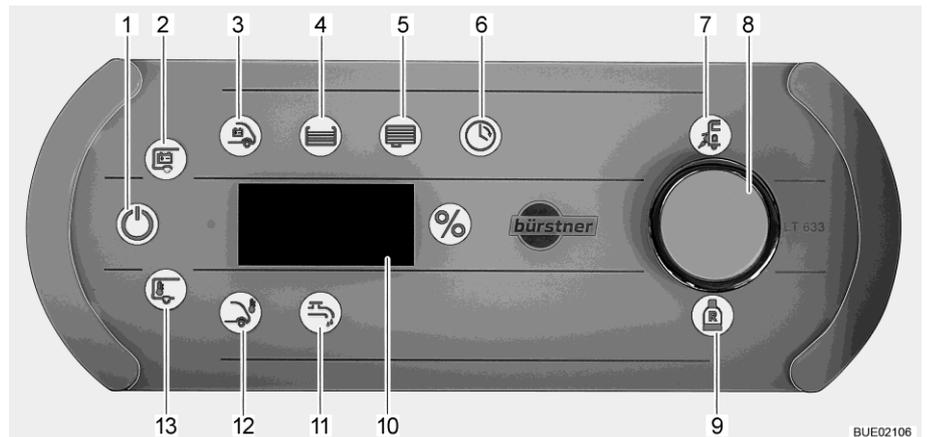

Fig. 109 Panel LT 633
The mains check symbol (Fig. 109,7) lights up when the vehicle is being supplied with 230-V line voltage. The batteries are charged.
- Briefly press the rotary knob (Fig. 109,8). The 12 V ON symbol (Fig. 109,1) is lit. When the 12 V ON living area battery (Fig. 109,2) symbols flash three times, the power supply has been deactivated.
- Press and hold rotary knob (Fig. 109,8) for approx. 5 seconds. The living area battery symbol (Fig. 109,2) is flashing and "On" appears on the display (Fig. 109,10).
- Release the rotary knob. The 12 V ON symbol (Fig. 109,1) is lit. The power supply has been switched on.
- Turn the rotary knob until the water pump symbol (Fig. 109,11) lights up. The current switching state ("On" or "OFF") is shown on the display.
The water pump symbol (Fig. 109,11) lights up when the water pump is switched on.
- Turn the rotary knob until the living area battery symbol (Fig. 109,2) lights up. The battery voltage of the living area battery appears for approx. 20 seconds on the display (e.g. "13,8U" for 13.8 Volt).
- Turn the rotary knob until the starter battery symbol (Fig. 109,3) lights up. The battery voltage of the starter battery appears for approx. 20 seconds on the display.
Gas reserve The reserve gas bottle symbol (Fig. 109,9) lights up when the reserve gas bottle is in use.
- Turn rotary knob until the internal temperature symbol (Fig. 109,13) or the external temperature symbol (Fig. 109,12) is lit. The selected temperature appears on the display.
- Turn the rotary knob until the clock symbol (Fig. 109,6) is lit.